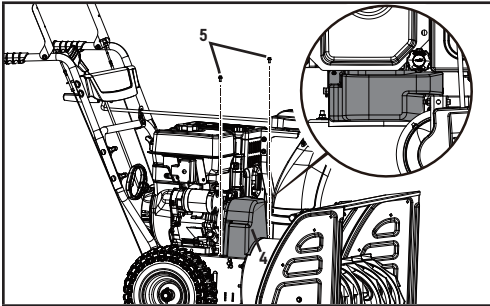

Figure 35
1. Remove the plastic belt cover (4) on the front of the engine by removing two M6 × 16 bolts (5) (Fig. 35).